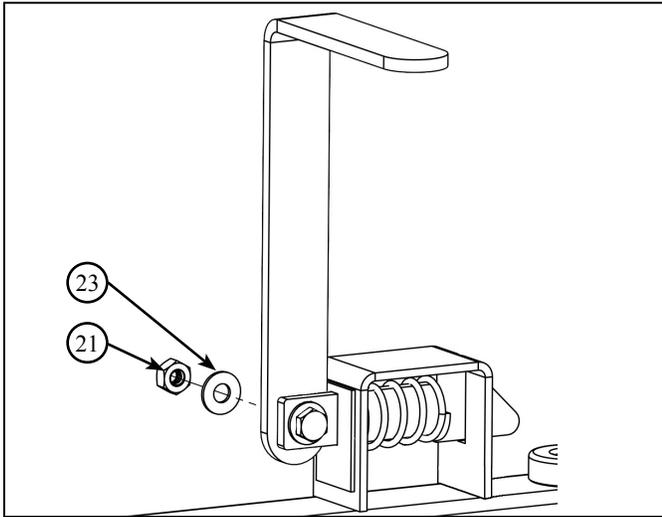

Figure 3.11 - Bed Latch Handle
10. Install a washer (23) and nut (21) onto bolt, do NOT over-tighten. Refer to Figure 3.11